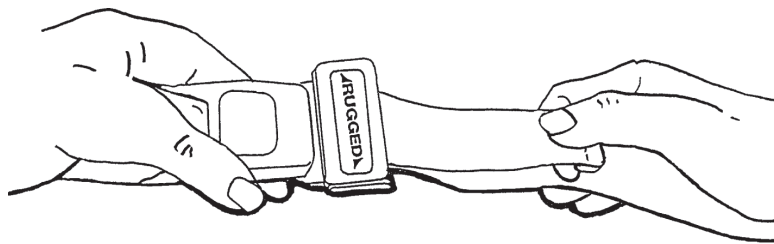

Figure 45
- **To shorten the restraint**, grasp the hemmed tab and pull the webbing back through the latch plate until the required tightness is achieved (Figure 45).